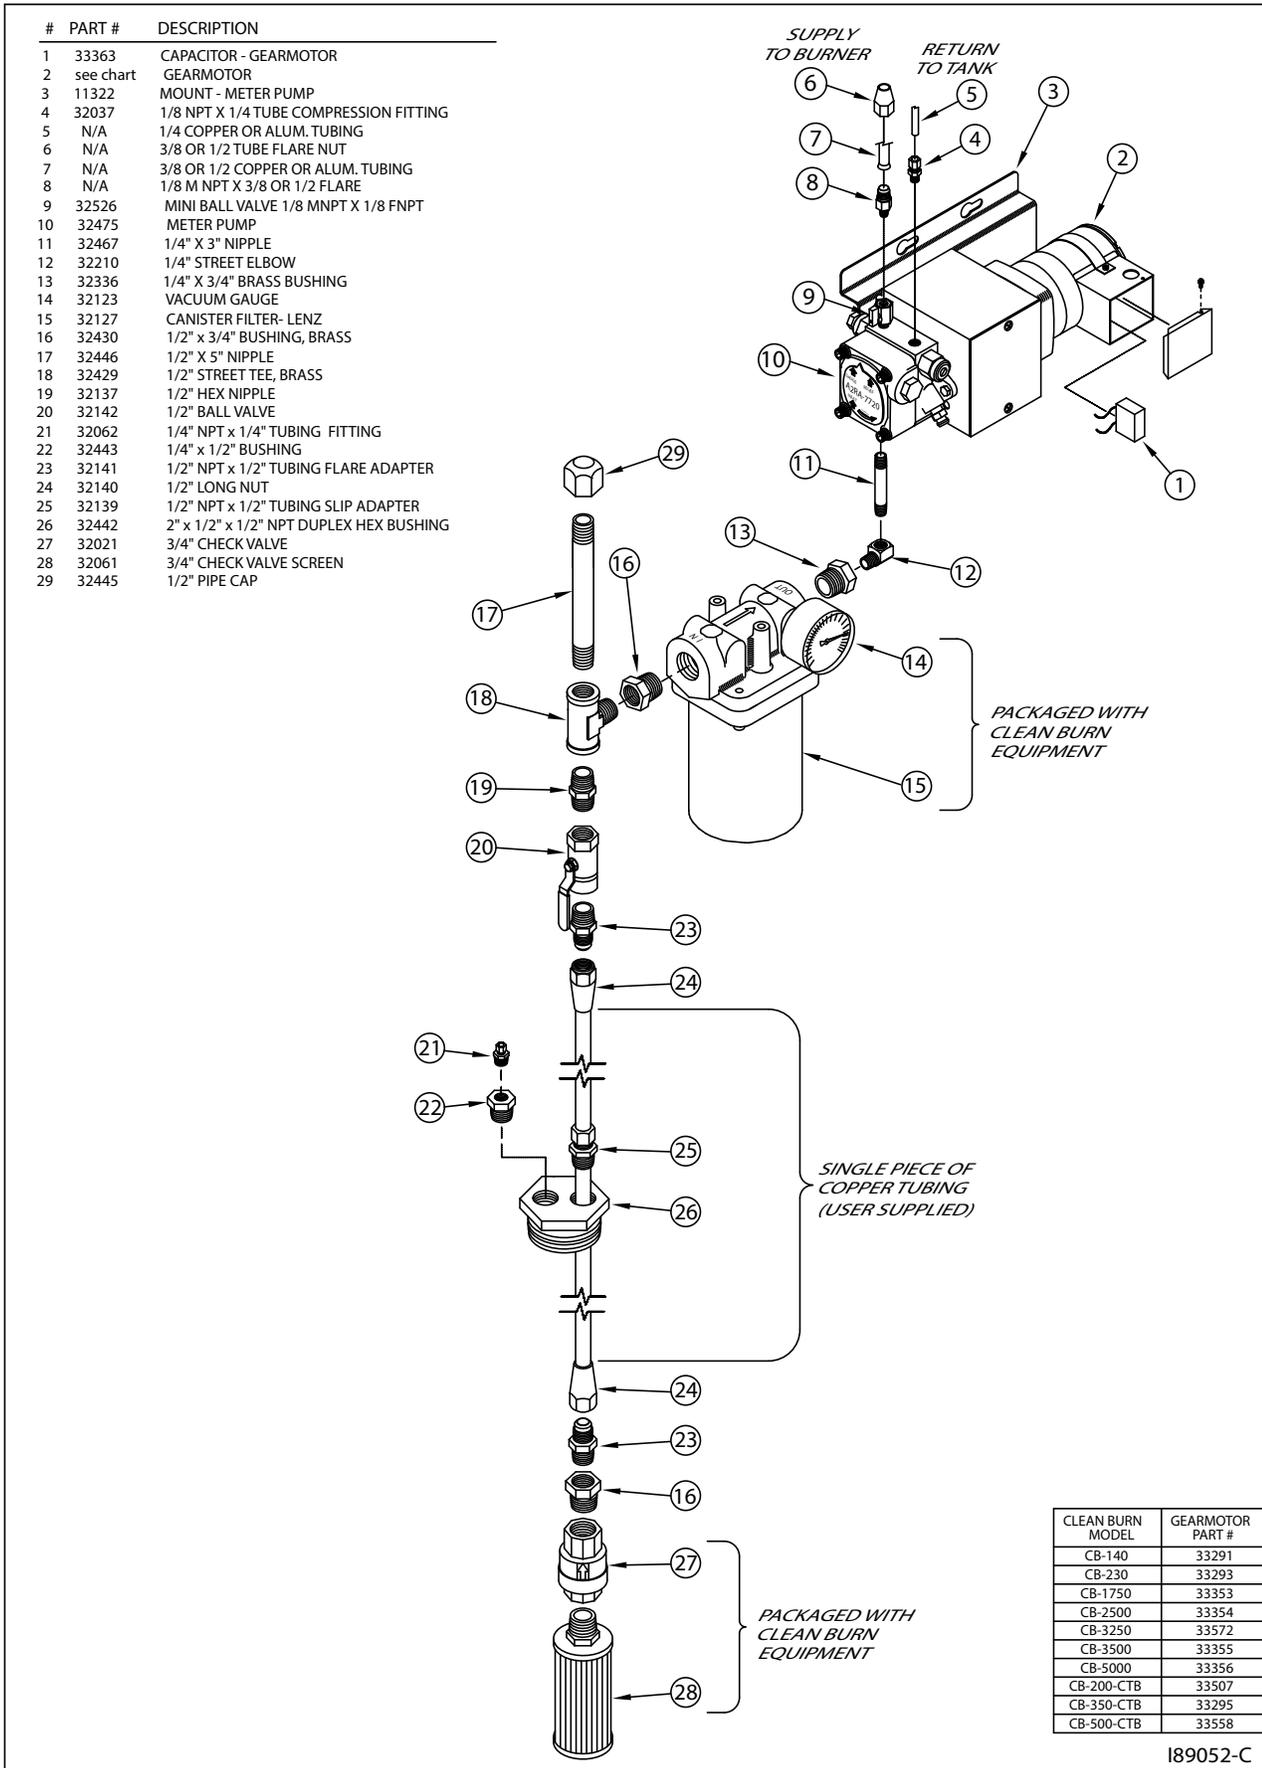

Figure 4H - Metering Pump Component Detail
- Verify that you have the proper metering pump for your furnace (note the specific gear motor part numbers shown in Figure 4H).
1. Refer to Figures 4H and 4I.
- All suction oil line components must be installed as shown in Figures 4H and 4J. **Suction line size is 1/2" diameter.** Proper installation allows the suction oil line to be filled with used oil during initial priming.
- (1) vertical foot = 0.75" hg (vacuum)
- (4) horizontal feet = 0.75" hg (vacuum)
- a. Refer to Figure 4H for a detailed look at the metering pump components and fittings.
- Install the canister filter assembly onto the 1/4" brass street elbow as shown in Figure 4H. The canister filter must be installed with the arrow pointing towards the pump (direction of oil flow).
- a. Refer to Figures 4H and 4J. Prepare a piece of 1/2" O.D. copper tubing (user-supplied) which will function as the pick-up line from the tank to the canister filter. This copper tubing must have the following specifications: